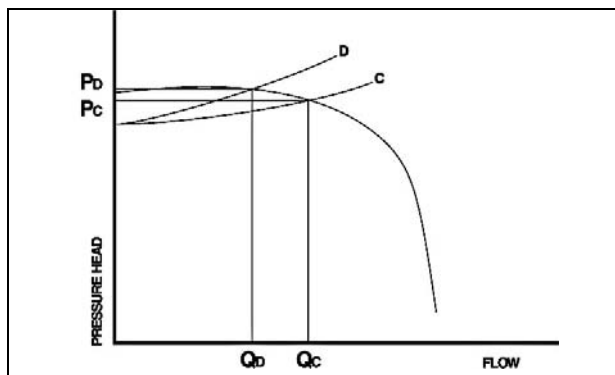
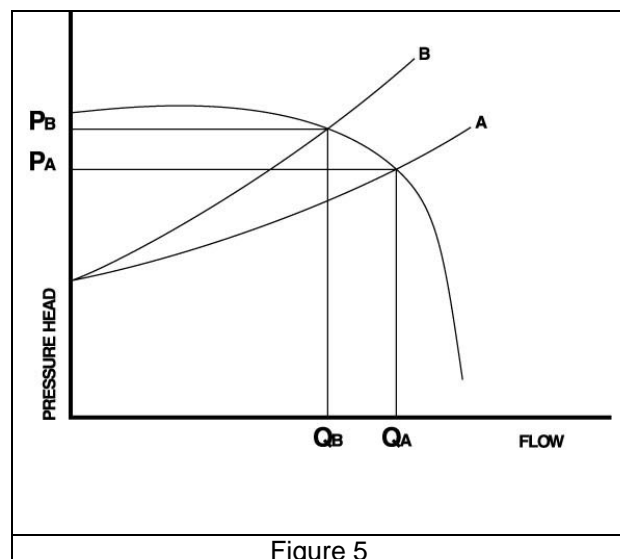

Figure 4
Figure 5
- B. The flow at which a centrifugal pump operates depends upon the point of intersection of the system head and pump characteristic curves. In order for control to be steady, the system curve must intersect the pump characteristic curve at a significant angle. Examples of satisfactory and unsatisfactory angles of intersection are shown in Figures 4 and 5.
In Figure 4, the angle of intersection between the system curve and the pump performance curve is small. Note that System Curve C intersects the pump performance curve resulting in Pressure  $P_c$  and Flow  $Q_c$ . System Curve D could represent a system curve in which the control valve is wide open. As the control valve is closed, the additional pressure moves the system curve to that of System Curve D resulting in Pressure  $P_d$  and Flow  $Q_d$ . Note that for a very small change in pressure, there is a large change in flow.
In Figure 5, the angle of intersection between the system curve and the pump performance curve is much larger than that shown in Figure 4. The pump performance curve shown in Figures 4 and 5 are identical. In this example, note that System Curve A intersects the pump performance curve resulting in Pressure  $P_a$  and Flow  $Q_a$ . As was the case in Figure 4, Curve A could represent a system curve in which the control valve is wide open. As the control valve is closed, the additional pressure moves the system curve to that of Curve B resulting in Pressure  $P_b$  and Flow  $Q_b$ . Since the angle of intersection between the system curve and the performance curve is much larger, a larger change in pressure is required to provide the same change in flow as shown in Figure 4.